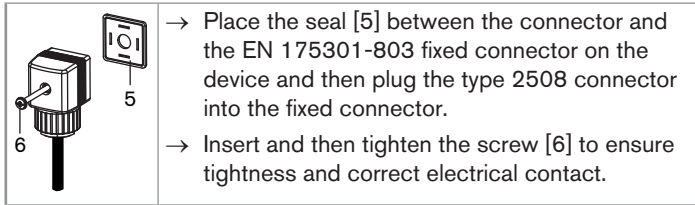

Fig. 6 : Assembling the female connector type 2508 (supplied)
- Unscrew the nut [1] (see Fig. 6) on the female connector type 2508 supplied with the device.